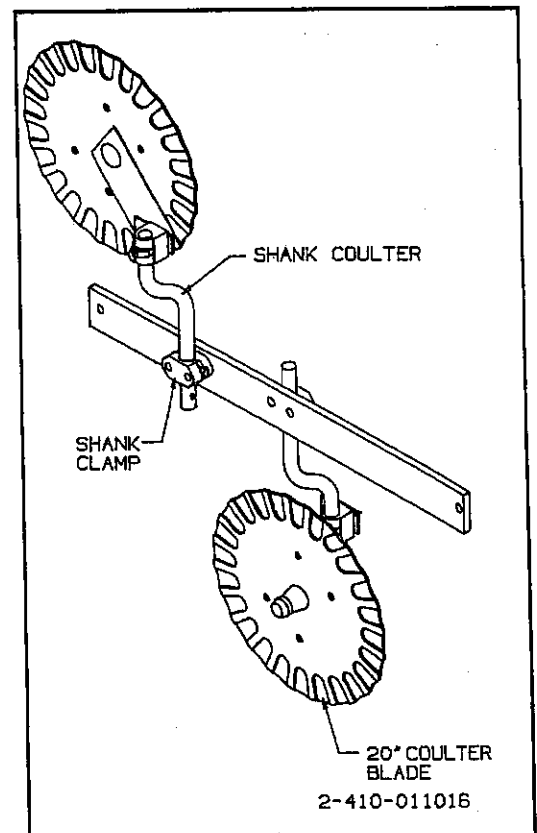

Figure 4-13 Assembled Coulers - Side View
**4-9.6** To install the couler assemblies (see Figure 4-13):